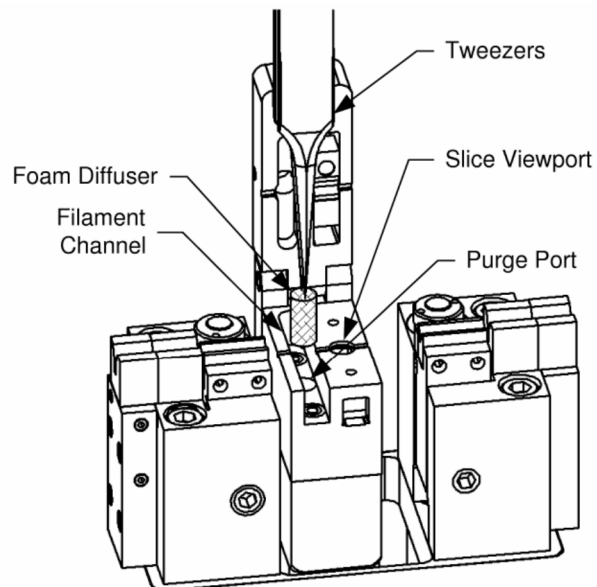

Figure 64 **Removing the Foam Insert**
- Locate the pink foam diffuser in the purge port of the filament channel (Figure 64). If the foam diffuser looks to be seated approximately 1/32" below the top of the filament channel, and does not appear to be damaged or dirty, proceed to step 13.